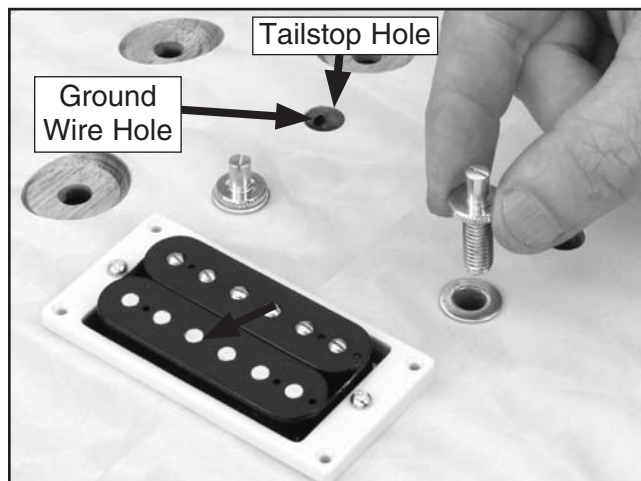

Figure 24. Bridge adjustment screw.
3. Thread the bridge adjustment screws into the inserts, as shown in **Figure 24**, and place the bridge over the inserts.
4. Feed the grounding wire from the electronics cavity into the tailstop hole through the pre-drilled ground wire hole (**Figure 24**). Hook the end of the wire down so it catches the edge of the hole.